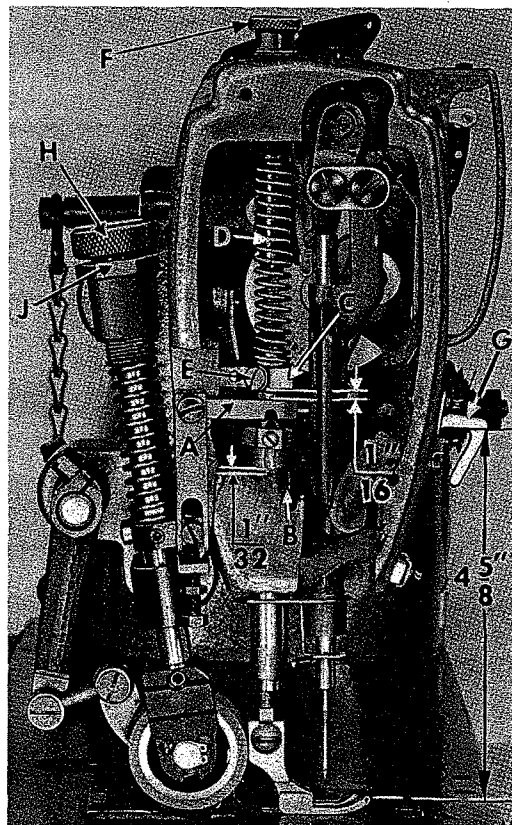

Fig. 16B
The presser bar connection (A, Fig. 16B) should be set so that it is approximately $\frac{1}{32}$ inch above the lower presser bar bushing (B, Fig. 16B). This is accomplished by tipping the machine back against the rest pin, loosening the lock nut (A, Fig. 15 - Cat. No. 126 M) and relocating the stop screw (B) on the lifter lever bell crank (C). By turning the stop screw to the right or left, the proper setting of the presser bar connection is accomplished. Tighten the lock nut (A) to lock the stop screw in place.
When locating the presser bar guide (C, Fig. 16B) the presser foot must rest directly against the throat plate with the feed dog in its lowest position. The guide is set properly when there is a $\frac{1}{16}$ inch space between the bottom of the presser bar guide (C) and the top of presser bar connection (A, Fig. 16B).
Set the needle thread pull-up bracket (G, Fig. 16B), so that the underside of the bracket is $4 \frac{5}{8}$ inches above the throat plate (Fig. 16B).
Turning the regulator (H, Fig. 16B) clockwise increases the pressure and counterclockwise acts the reverse. Locking nut (J) is provided to maintain this setting.